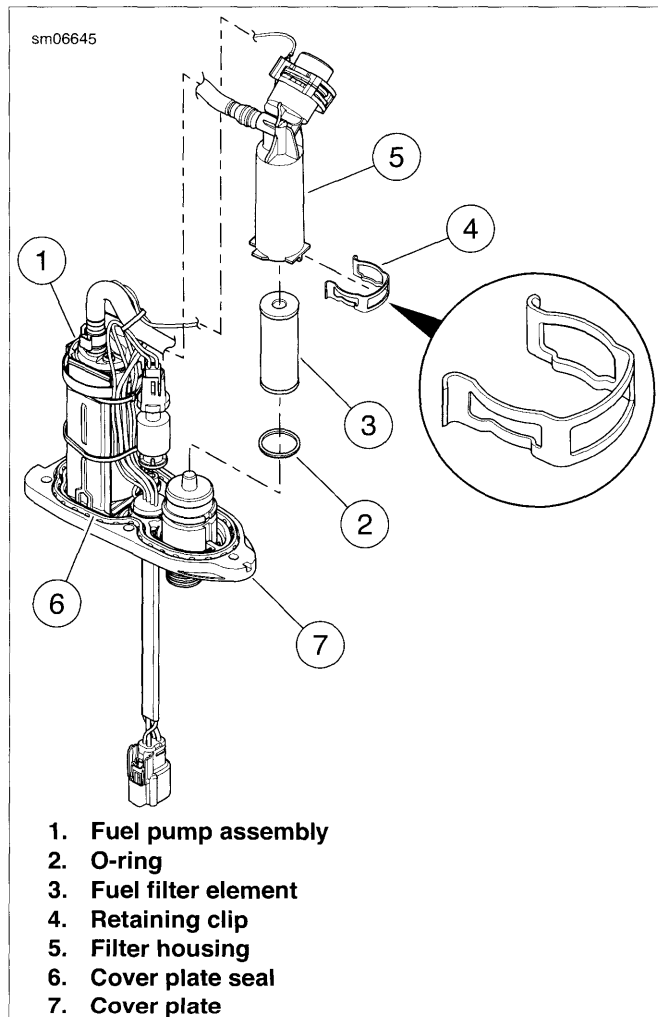

Figure 1-88. Replacing Fuel Filter Element
6. See Figure 1-88. Remove and discard cover plate seal (6).
7. Remove retaining clip (4) and lift filter housing (5) off fuel pump assembly (1).
8. Remove and discard filter element (3).
1. See Figure 1-88. Examine O-ring (2). Replace if cracked, torn or otherwise damaged.
2. Install **new** filter element (3) into filter housing (5).
3. Install filter housing onto base of fuel pump assembly (1). Secure with retaining clip (4), making sure that clip is oriented right side up, exactly as shown in the figure.
4. Install **new** cover plate seal (6) into groove in cover plate (7).